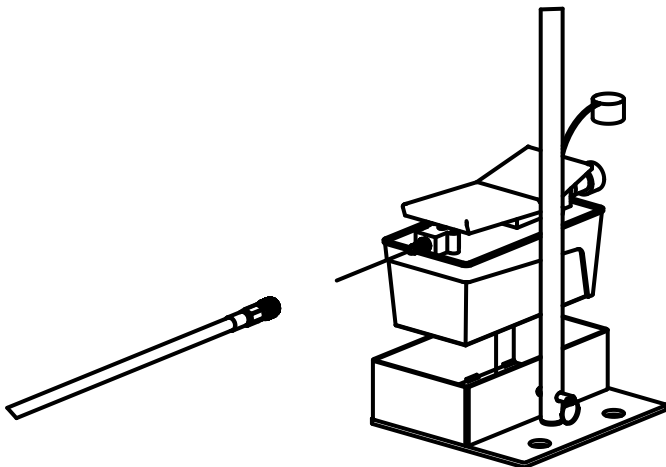

Figure 2
2. Place Lift Pump in the Pump Tray (see Figure 2). The Lift Pump can be identified by having a female disconnect on the hydraulic outlet and the pump does not have a pressure gauge.
3. Connect the airline from the Air Valve Tee to the Lift Pump (see Figure 2).
5. Connect the male end of the hydraulic hose from the lift to the female disconnect on the Lift Pump (see Figure 2).